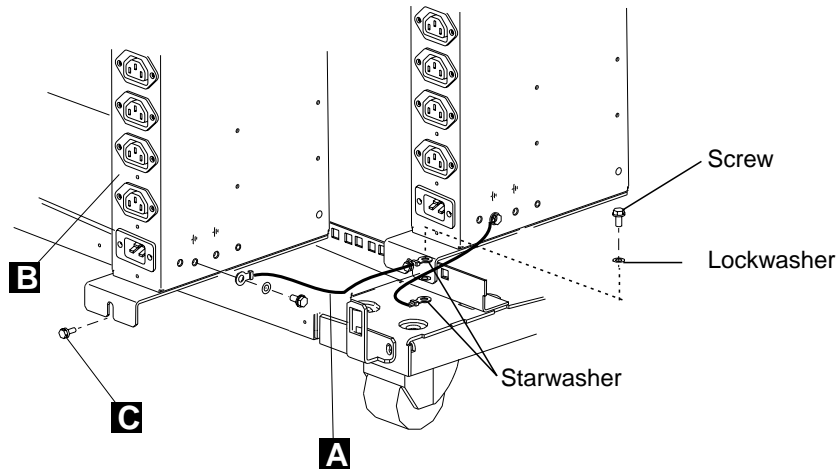

Figure 1-25. Installing the Captive Nuts
3. \_\_\_\_ Refer to Figure 1-25 on page 1-22, using one lockwasher (PN 1622319), one starwasher (PN 1622347), and one screw (PN1673983), **connect** the ground jumper **A** (PN 63F2459) to the new ac outlet distribution box. Then, **install** the second ac outlet distribution box close to the first ac outlet distribution box and fasten using two screws **C** (PN 1621230).